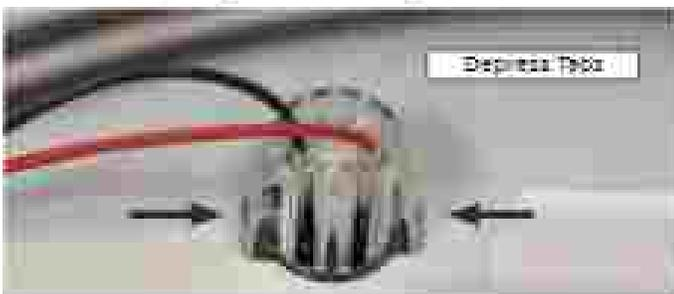

Figure 3 - Drum Light Tabs
6. Depress the tabs on both sides of the drum light to release from bulkhead. Route the light and harness assembly through the hole (see Figure 3).